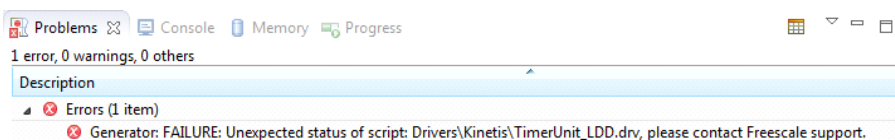

Figure 19. Unexpected error related to the LVHBridge TimerUnit\_LDD component
- Q: I sometimes get the following unexpected error while generating Processor Expert code: "Generator: FAILURE: Unexpected status of script: Drivers\Kinetis\TimerUnit\_LDD.drv, please contact Freescale support". What causes this? (Figure 19)